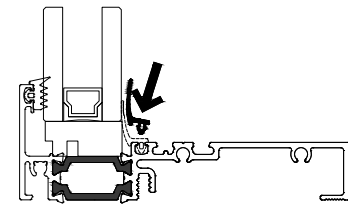

FIG. 5
- b. Starting at the sill, insert airtight gasket starting from one end, repeat this every 16 inches. Ensure opposite end of the gasket is inserted before rolling remaining gasket. **See FIG. 5.**